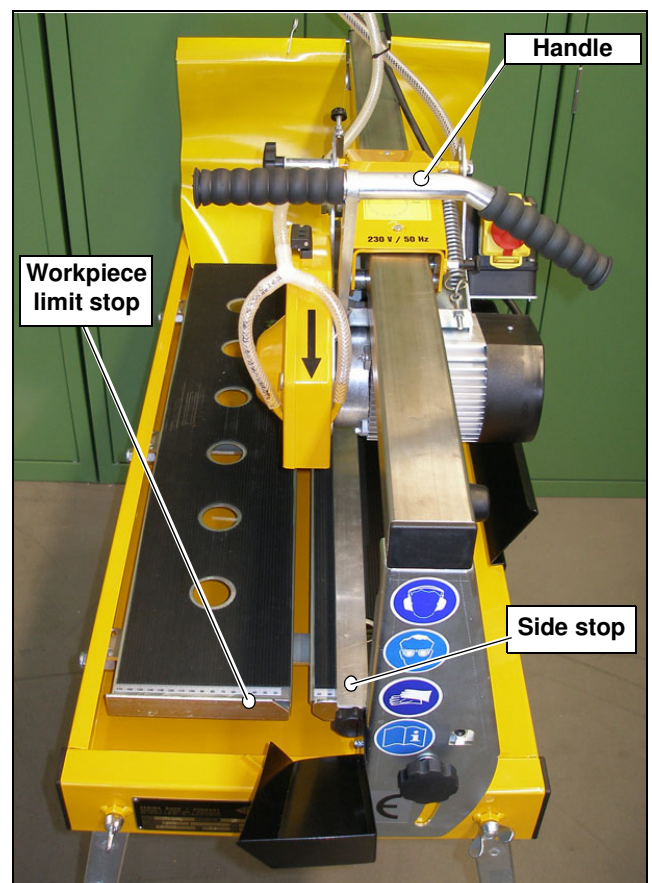

Fig. 4.1 View from the operators stand at the table saw
- When cutting, the operator stands on the right front face of the table saw and holds the right, if necessary the left hand on to the handle of the swivel cutting arm (Fig. 4.1).
way, that it is firmly fixed on the adjustable side- and workpiece limit stop (Fig. 4.1).